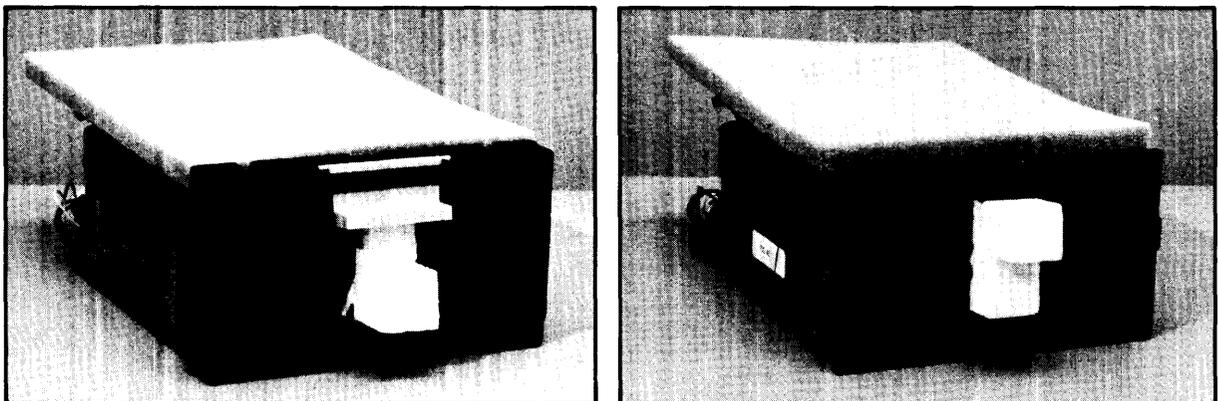

Figure 5-15: Foam Latch Insert
2. Open the front latch and insert the foam latch insert (P/N 9220-3448) as shown in Figure 5-15.